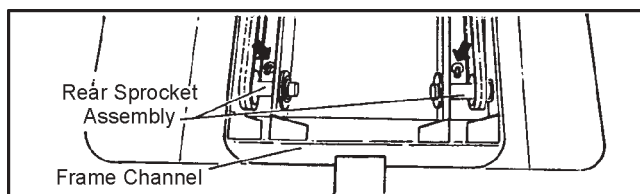

Figure 5-1. Location of rear drain plugs
3. Lift the rear floor pan and make sure both drain plugs in the rear of the lower body (Figure 5-1) are in place and properly tightened. To install, seat the rubber portion of the drain plug properly in the lower body hole and push the lever down to lock plug in place (Figure 5-3). Check that the plug is firmly in place. To tighten the drainplug, lift the lever up and turn the lever clockwise until it is snug when the lever is pushed down. Replace worn or inoperative drain plugs with ARGO Part No. 100-18.